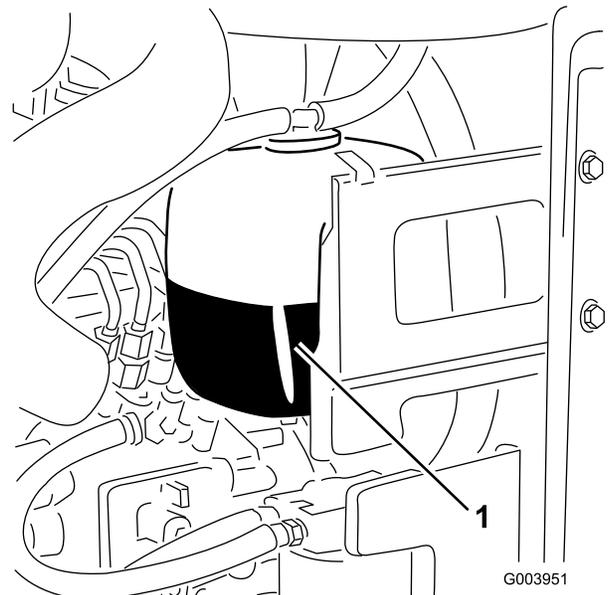

Figure 59
1. Check the level of coolant in the expansion tank (Figure 59).